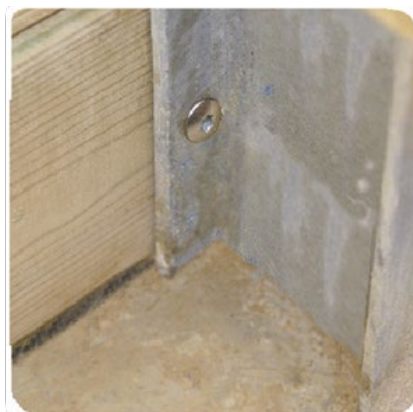

Figure 9 – Fastening the slats to the supporting braces
- fix them to the 4 supporting braces (these are pre-drilled, as shown in *Figure 9*) using the 36 A2 SS torx hinge screws 6 × 30 (bag D).